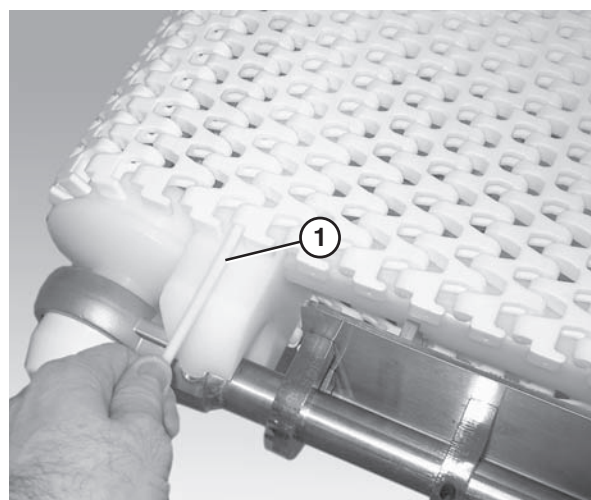

Figure 43
5. Insert the belt rod (**Figure 43**, item 1).